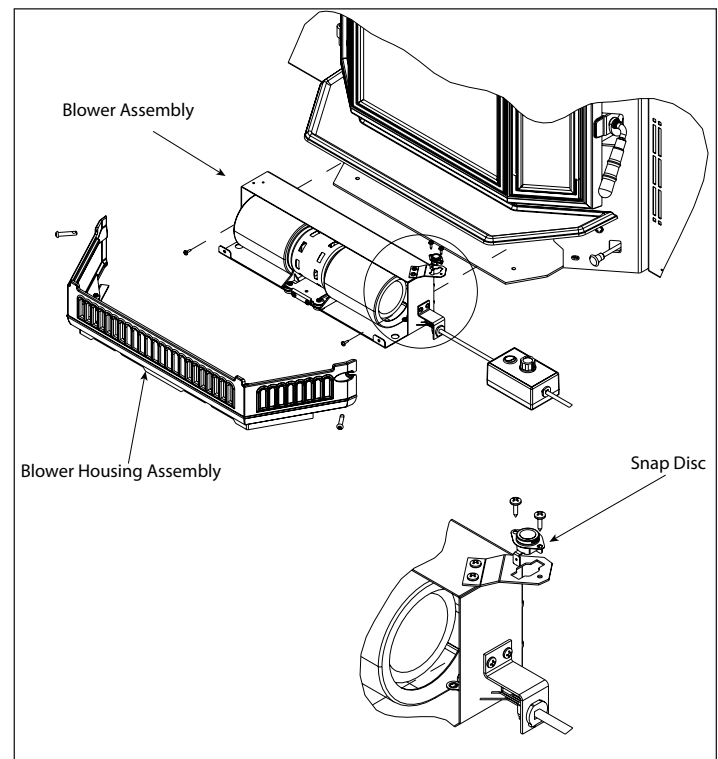

Figure 22.1
1. The snap disc bracket assembly is located on top of the blower assembly towards the side. **Figure 22.1.**